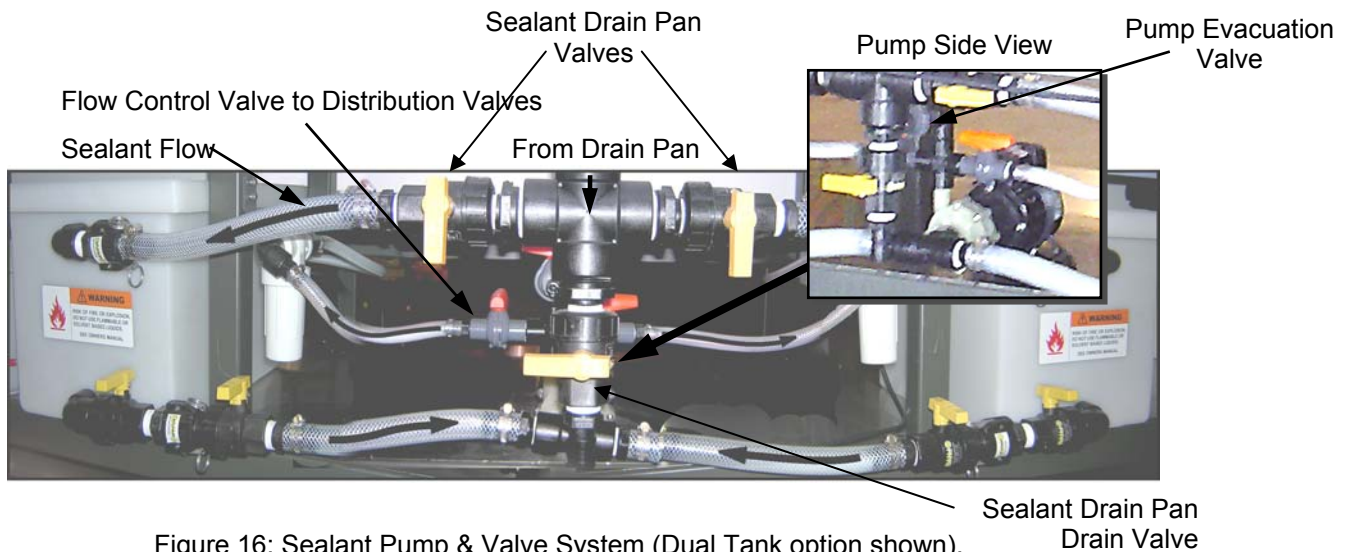

Figure 16: Sealant Pump & Valve System (Dual Tank option shown).
- Refer to Figure 16 for reference.